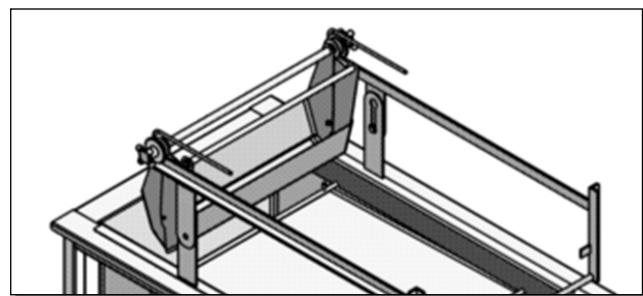

Figure 6, Upper Frame Assembly
9. ASSEMBLE the **Glaze Applicator** onto the top of the **Upper Frame**, aligning the rollers with the tracks (See Figure 6.)